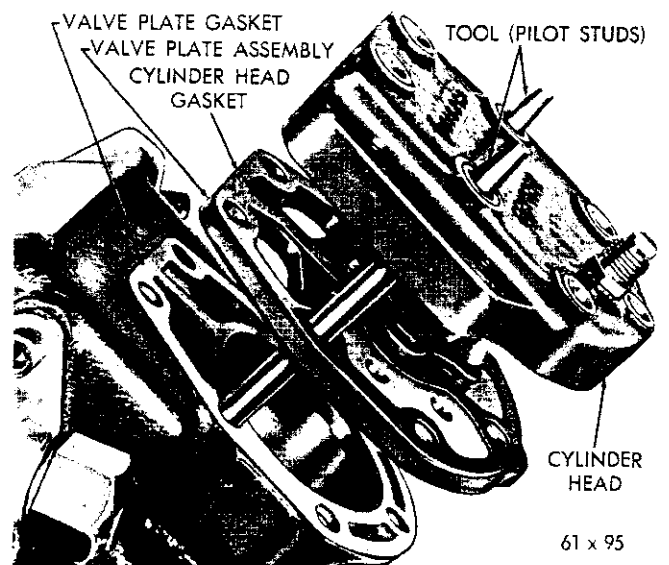

Fig. 45—Installing the Valve Plate and the Cylinder Head
(2) Dip the gaskets in clean refrigerant oil. Using the pilot studs as a guide, install the valve plate gasket, valve plate, cylinder head gasket and cylinder head, as shown in Fig. 45.
(3) Install the attaching bolts. Tighten each bolt alternately and evenly 23 to 27 foot-pounds torque.